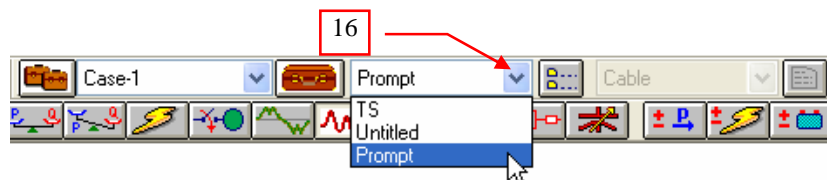

Fig. 10
16. Now, run the simulation. On the “Study Case” toolbar, select “Prompt” from the “Output Report” pull down box. The program will prompt for a filename of the output report for the study case “Case-1” when the simulation is ran. See Fig. 10.